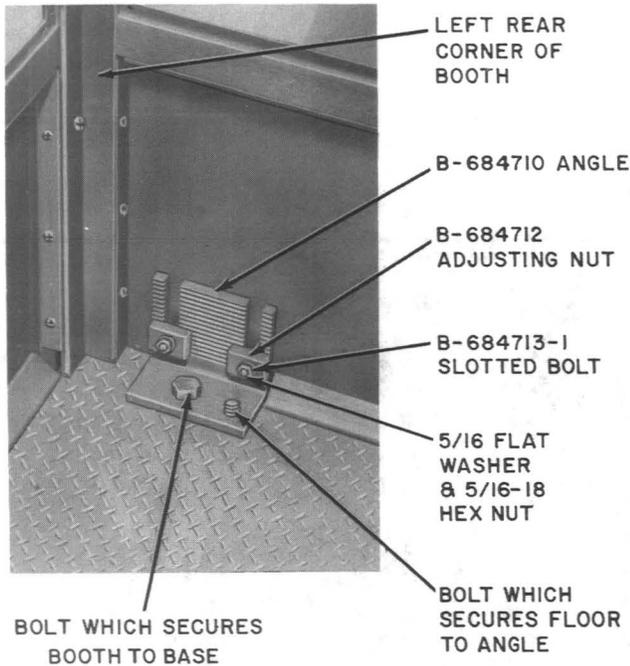

Fig. 6—Booth Anchor Bracket
- 2.19 Four adjustable angles (Fig. 6) are provided to permit leveling and anchoring.
- (a) If a KS-19580, List 28 foundation template is used, remove insert plugs from template and secure angle brackets (Fig. 6) of booth to template using four 3/8-16 by 1-1/4 hex head bolts, four 3/8-inch lockwashers, and four 3/8-inch flat washers.
- (1) Mark the locations for four mounting holes.
- (1) Mark the location for four mounting holes.
- (2) Drill four lead holes to accommodate 5/16 by 2-1/2 inch lag screws.
- (3) Secure booth to floor using the four 5/16 by 2-1/2 inch lag screws, four 5/16-inch lockwashers, and four 5/16-inch flat washers.
- (d) Adjust the angle brackets (Fig. 6) if necessary, and ensure that the booth is level.